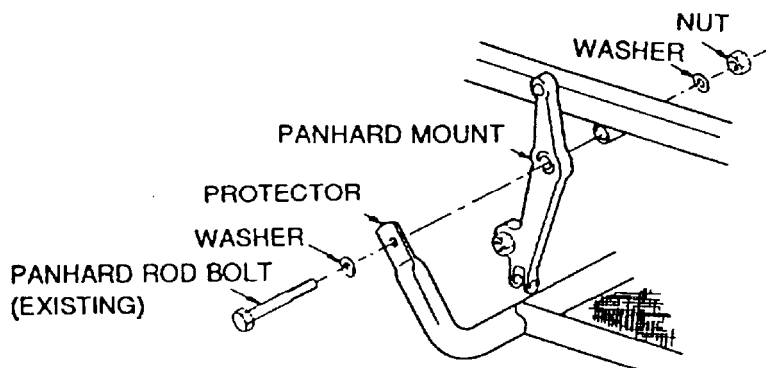

Figure 143 Protection Plate Removal
- b. Support the protection plate and remove the lower panhard-rod mounting arm to chassis-mounting bolt, washers and nut (Figure 143).